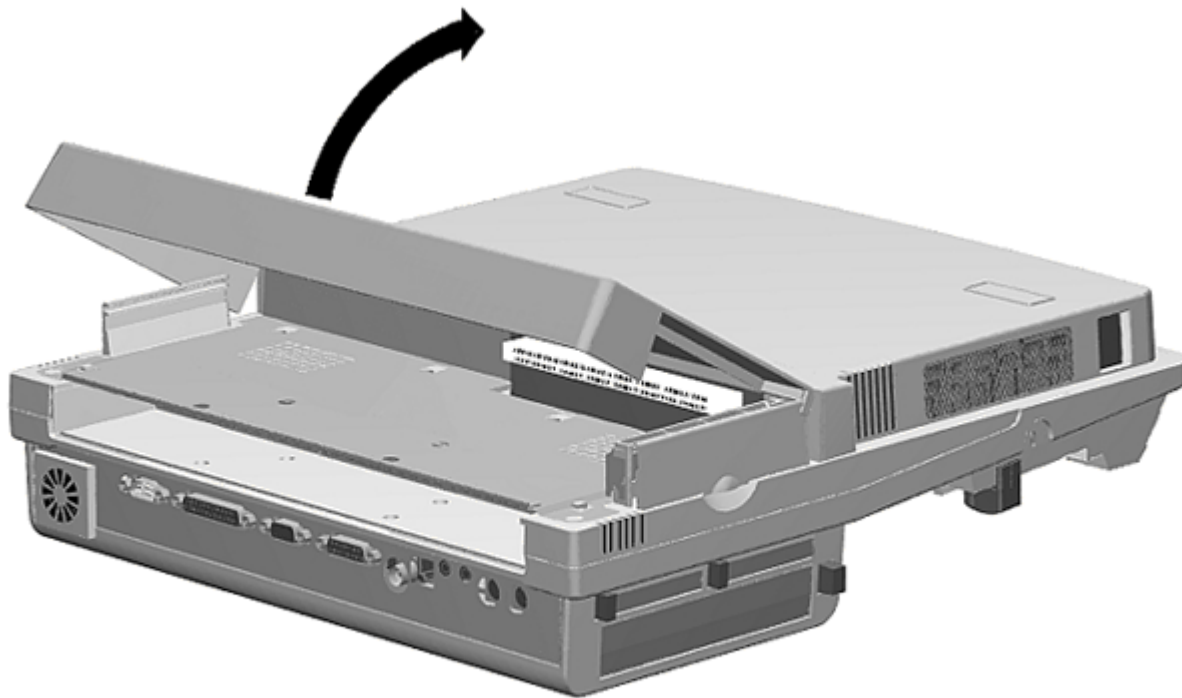

Figure 7-10. Removing the ISA Cover Assembly
3. Remove the ISA expansion cover (Figure 7-10)